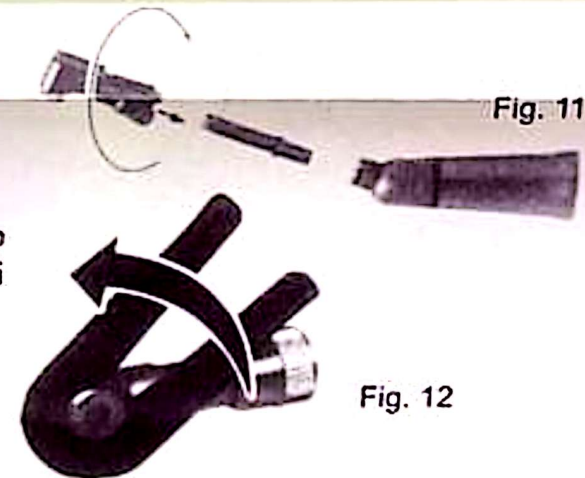
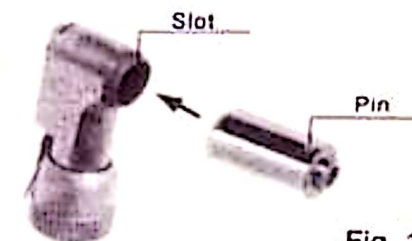

Fig. 12
Fig. 13
- ③ Place cap wrench on the head cap and turn counter-clockwise. Unscrew and separate the cap. (Fig.12)
- ④ Insert a bur blank or round rod into a hole from the latch spring end, and push out the cartridge.
- ⑤ Insert the new cartridge, with its pin aligned in the slot of the head.(Fig.13)
- ⑥ Reassemble in the reverse order.